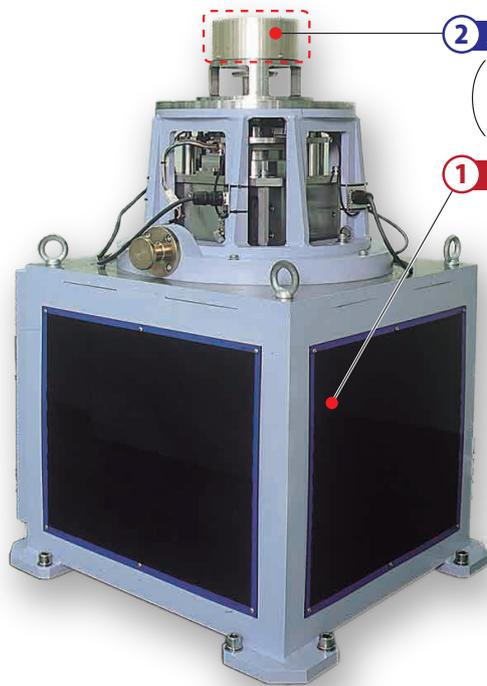

Figure 2
The number of measurement clock pulses between the output pulse signals of the reference sensor (Figure 2 (1)) that rotates at a constant speed and the calibrated angle sensor (Figure 2 (2)) is calculated, and then this time is converted into an angle to measure the variation in the angle accuracy.